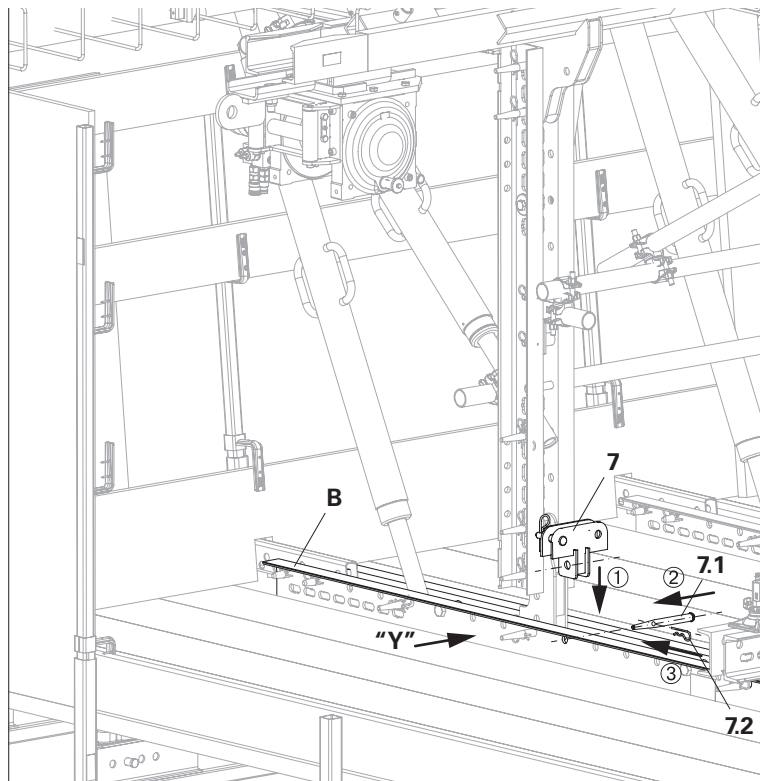

Fig. 05
- accommodates the push-pull prop below. (Fig. 05)
- (Fig. 05)